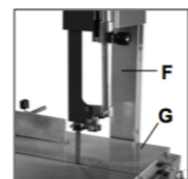

Figure 5
Then remove the Blade Guard (F) and Upper Guard Plate (G) (Figure 5). NOTE: For best results, stand to the left front of the table while performing the following steps.